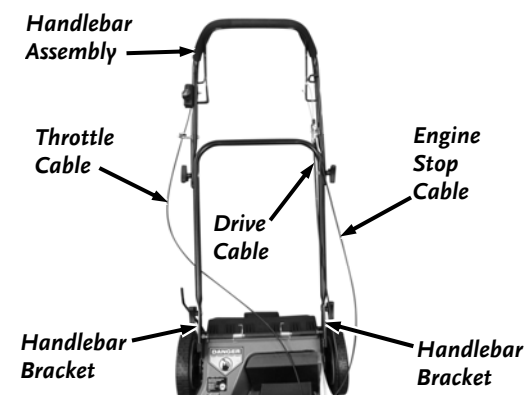

Figure 4
2. Carefully position the Handlebar Assembly and Cables at the rear of the Mower (**Figure 4**). Position the cables so the Throttle and Engine Stop Cables are on the outside of the Handlebar Brackets and the Drive Cable is on the inside of the Handlebar Bracket.